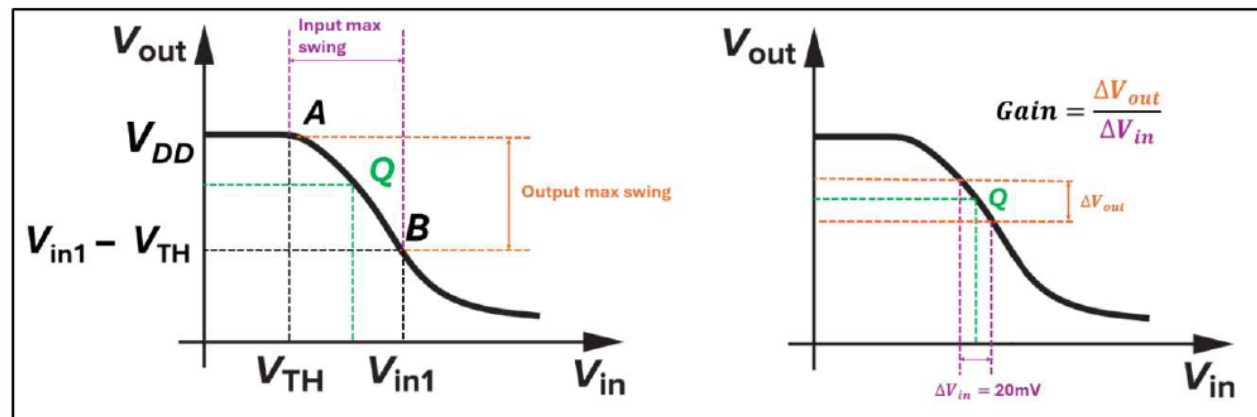

Figure 9. Method calculating Gain, Input max-swing and Output max-swing
- Method to calculate DC Gain, input max swing and output max swing as shown in **Figure 9**.